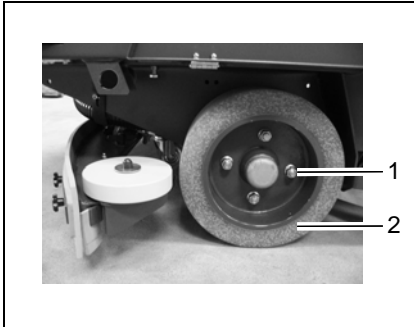

Fig. 43
The wheel nuts on the wheels (Fig. 43/1) must be subjected to their first check after 100 operating hours and subsequently every 200 hours.
The tightening torque for the wheel nuts (Fig. 43/1) is 140 Nm.
2. Remove the wheel nuts (Fig. 43/1).
3. Pull off the wheel (Fig. 43/2).
4. Fit a wheel (Fig. 43/2).
5. Screw on and tighten the wheel nuts (Fig. 43/1).